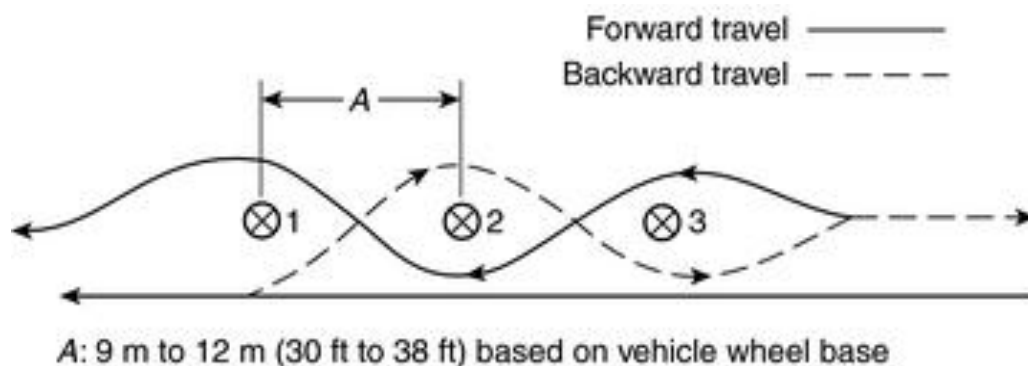

FIGURE A.4.3.3 Serpentine Exercise.
A.4.3.3: The serpentine exercise can be used as practice for meeting or in the evaluation of this requirement. The course or path of travel for this exercise can be established by placing a minimum of three markers, each spaced between 9 m (30 ft) and 12 m (38 ft) apart, in a line. The spacing of the markers should be based on the wheel base of the vehicle used. Adequate space must be provided on each side of the markers for the apparatus to move freely. The driver should drive the apparatus along the left side of the markers in a straight line and stop just beyond the last marker. The driver then should begin the exercise by backing the apparatus between the markers by passing to the left of marker No. 1, to the right of marker No. 2, and to the left of marker No. 3. At this point, the driver should stop the vehicle and then drive it forward between the markers by passing to the right of marker No. 3, to the left of marker No. 2, and to the right of marker No. 1. (See Figure A.4.3.3.) Note that for large vehicles, such as ARFF apparatus, this course might need to be modified.